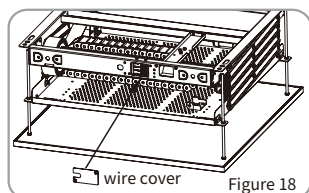

Figure 18
*External IR/RF remote control(Optional,External Slot in the back of Lift)(Figure 18 -20)
12. Before contacting the power cable of projector lift, please take out the wire cover in the back of lift (Figure 18).